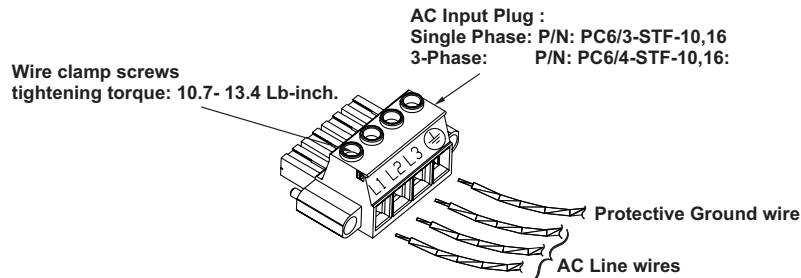

Fig.3-3: AC Input plug (3-Phase shown)
4. Connect the AC wires to the terminals of the input plug supplied with the unit. To connect the wires, loosen the terminal screw, insert the stripped wire into the terminal and tighten the screw securely (4.4-5.3 Lb-inch.). Refer to Fig. 3-3 for details. Pay attention to connect the wires according to the polarity marking on the plug.